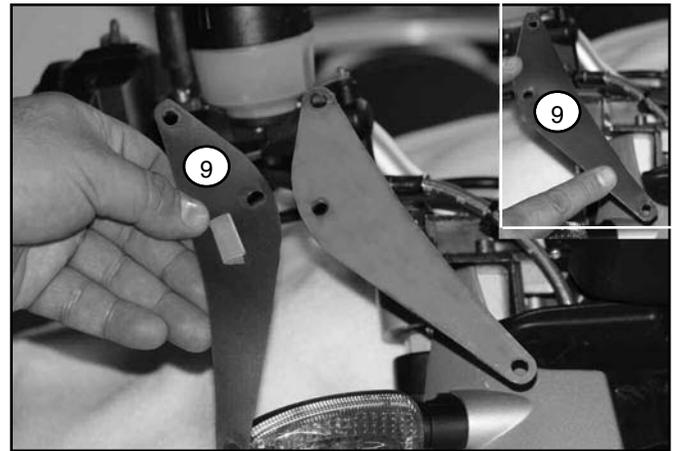

Figure 7
9. Put a small amount of tape on the back side of two gaskets (9). Position gaskets on arms of main bracket. **Figure 7**